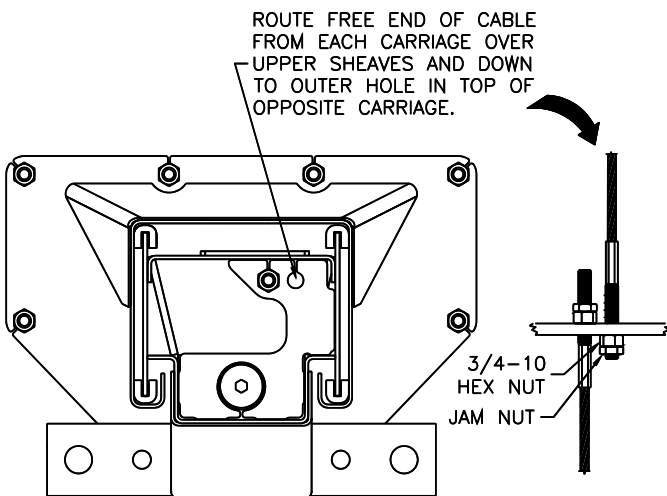

Fig. 12 – Cable Attachment at the Carriage
33) Mount synchronizer cables to carriages as shown in **Fig. 12**.